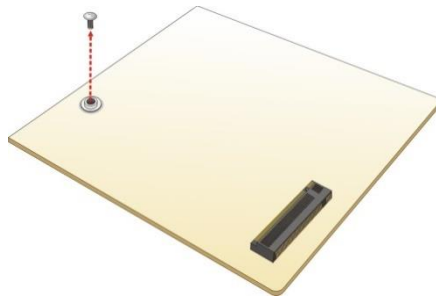

Figure 3-7: Removing the M.2 Module Retention Screw
Step 3: Remove the on-board retention screw as shown in Figure 3-7.